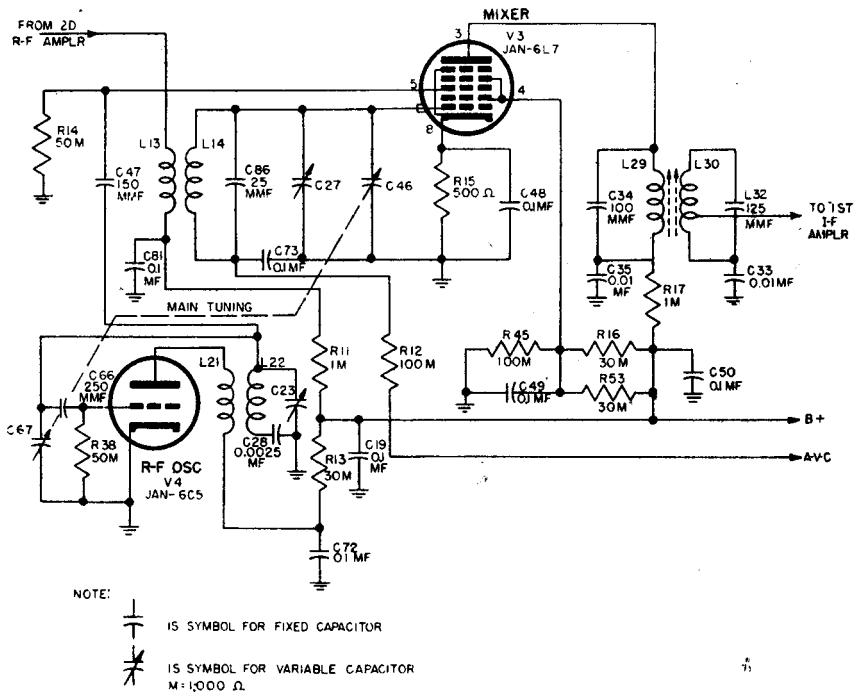

Figure 24. Mixer and r-f oscillator stages, m-f models.
b. RADIO RECEIVERS BC-314-(*) AND BC-344-(*). (1) A simplified schematic diagram of the mixer stage and r-f oscillator stage in the m-f receiver models is shown in figure 24. The mixer stage is similar to the mixer stage in the h-f receiver models with the exception of the tuned grid input circuit. This circuit consists of inductor L14 and capacitors C27, C46, and C86 whose functions are identical to the corresponding elements in the r-f amplifier tuned circuits in the h-f receivers.